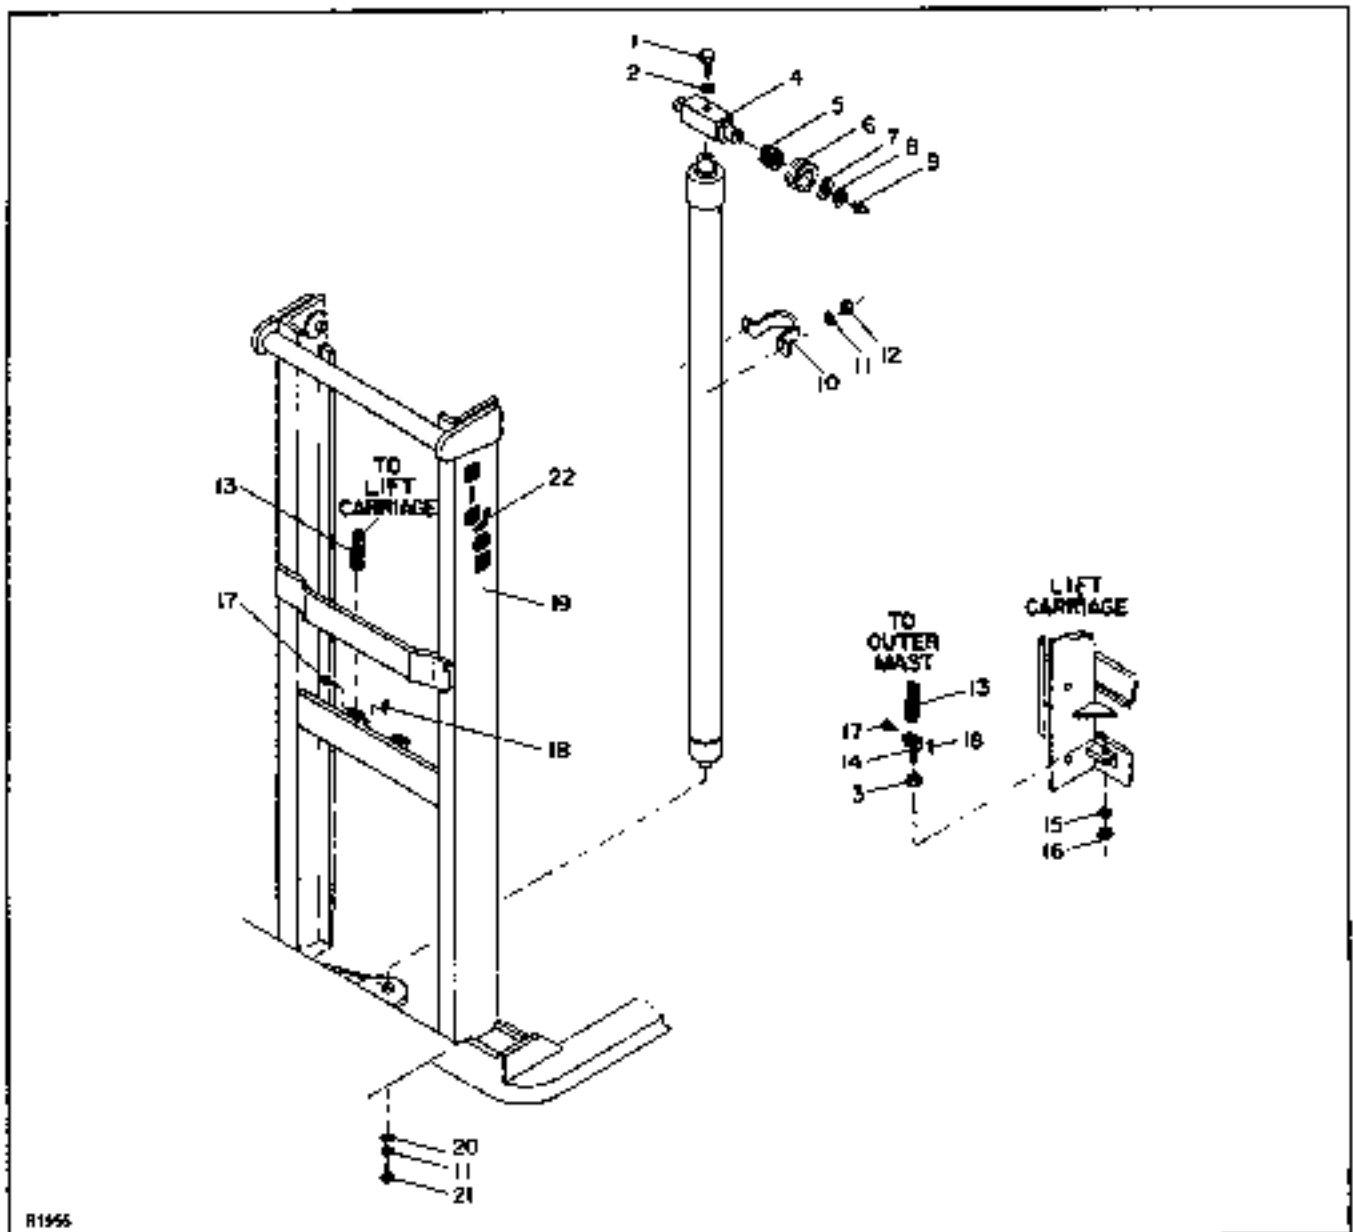
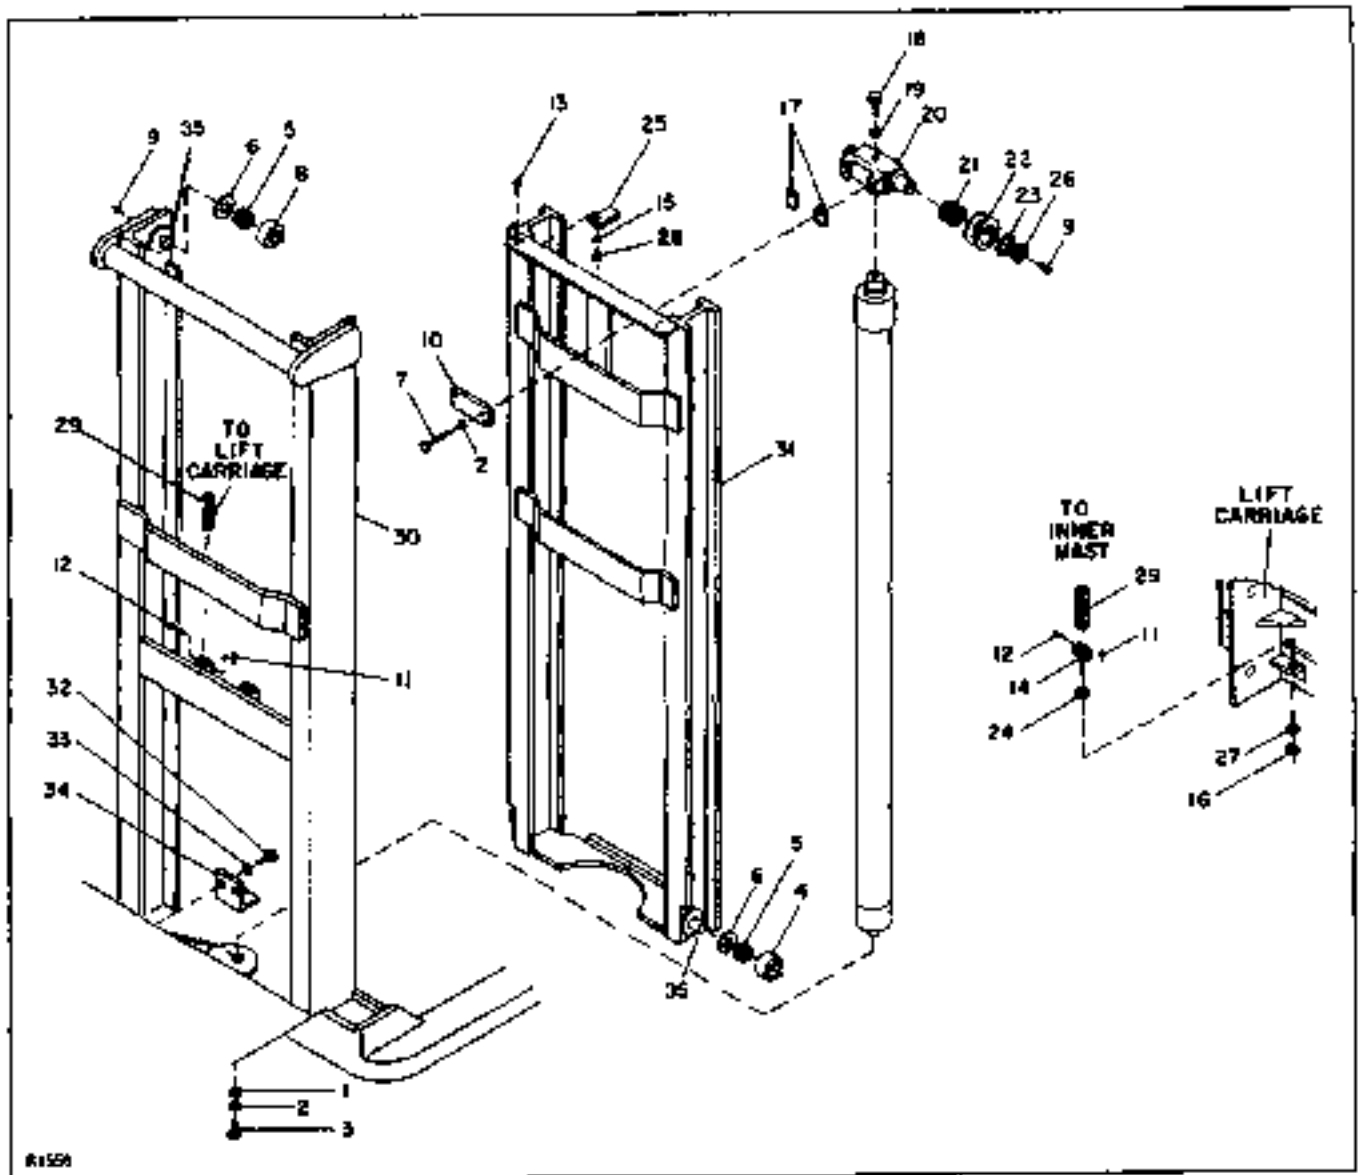
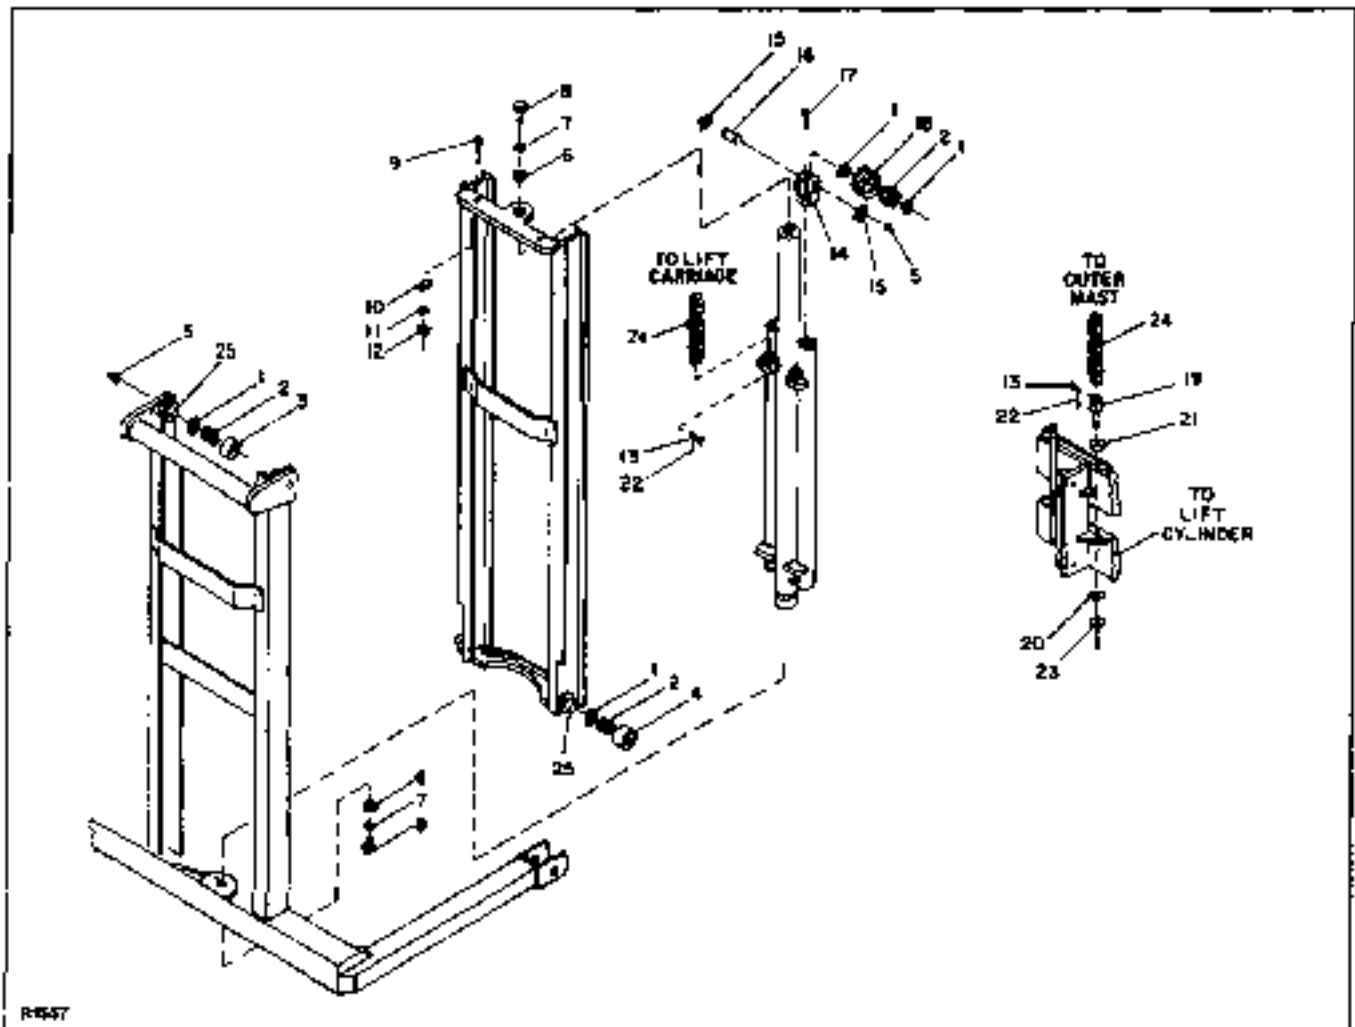

Figure 8-1. Standard Masts (Nontelescopic)
Figure 8-2. Standard Masts (Telescopic)
Figure 8-3. Inner and Outer Masts - Full Free Lift
3. Slacken the lift chains by loosening the nut (16, Figure 8-1) below the chain adjusting bolt (14) on the lift carriage.
4. Lift the lift chains (13) off the ram head sheaves (6) and lay on the mast support.
5. Remove screw (1) and lock washer (2) and lift the ram head (4) off the lift cylinder.
3. Slacken the lift chains by loosening the nut (16, Figure 8-2) below the chain adjusting bolt (14) on the lift carriage.
4. Lift the lift chains (29) off the ram head sheaves (22) and lay on the mast support.
5. Remove screw (18), lockwasher (19), from top of ram head (20).
6. Remove screws (7), lockwashers (2), wear spacers (17) and clamp bar (10) and lift the ram head (20) off the lift cylinder.
3. Slacken the lift chains by loosening the nut (23, Figure 8-3) below the chain adjusting bolt (19) on the lift carriage.
4. Lift the lift chains off the Yoke sheaves (18) and lay on the mast support.
5. Remove snap ring (15) and slide axle (16) out of yoke sheave (14). Sheave (18), bearing (2), and thrust washers (1) will fall free.
6. The yoke sheave (14) can now be removed by removing screw (17).
3. Loosen jam nut (3, Figure 8-1 or 24, Figure 8-2) on chain adjusting bolt on the lift carriage.
4. Take up slack by tightening nut (16, Figure 8-1 or Figure 8-2) on the bottom of the chain adjusting bolt.
5. Secure adjustment by tightening nut (3, Figure 8-1 or nut 24, Figure 8-2).
3. Loosen jam nut (21, Figure 8-3) on chain adjusting bolt on the back of the lift carriage
4. Take up slack by tightening nut (23) on the bottom of the chain adjusting bolt.
5. Secure adjustment by tightening nut (21).
3. Remove the cotter pin (18 Figure 8-1 or 11, Figure 8-2) and clevis pin (17, Figure 8-1 or 17, Figure 8-2) from end of chain connected to mast cross brace.
4. Remove the cotter pin (18 Figure 8-1 or 11, Figure 8-2) and clevis pin (17, Figure 8-1 or 17, Figure 8-2) from end of chain connected to lift carriage.
5. Remove chain from sheave (6, Figure 8-1 or 22, Figure 8-2) and lay aside for repair.
7. Connect end of chain to lift carriage adjusting bolt (14, Figure 8-1 or Figure 8-2) with the clevis pin (17, Figure 8-1 or 17, Figure 8-2) and cotter pin (18, Figure 8-1 or 11, Figure 8-2).
8. Connect end of chain to chain anchor on mast cross brace with the clevis pin (17, Figure 8-1 or 12, Figure 8-2) and cotter pin (18, Figure 8-1 or 11, Figure 8-2).
3. Remove the cotter pin (22, Figure 8-3) and clevis pin (13) from end of chain connected to mast cross brace.
4. Remove the cotter pin (22) and clevis pin (13) from end of chain connected to lift carriage.
5. Remove chain from sheave (18) and lay aside for repair.
7. Connect end of chain to lift carriage adjusting bolt (19) with the clevis pin (13) and cotter pin (22).
8. Connect end of chain to chain anchor on lift cylinder with the clevis pin (13) and cotter pin (22, Figure 8-2).
9. Non-Telescopic: Remove lift cylinder clamp (10, Figure 8-1) by removing nuts (12) and lockwashers (11).
10. Remove screw (21, Figure 8-1 or 3, Figure 8-2) and washers (11 and 20, Figure 8-1 or 1 and 2, Figure 8-2) from bottom of lift cylinder.